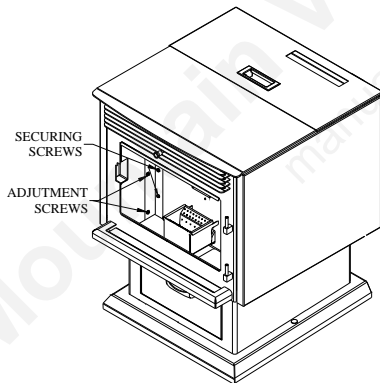
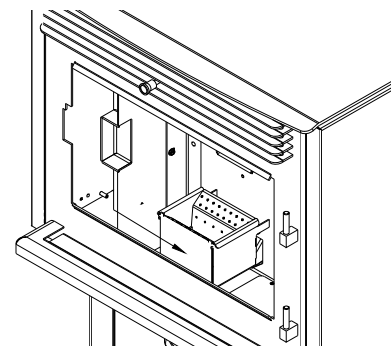
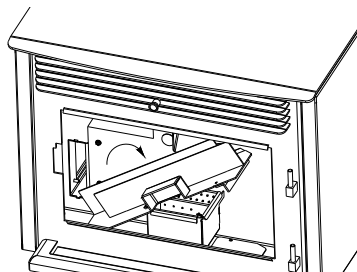
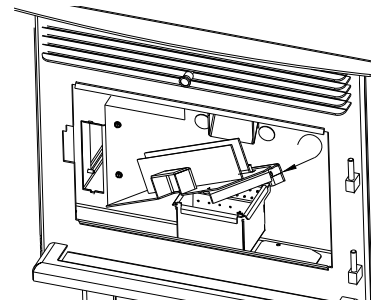

Figure 44
Figure 45
Figure 46
Figure 47
- Chamber walls:** Periodically, you must vacuum the ashes that may have accumulated on the main walls of the combustion chamber. **START BY REMOVING THE DECORATIVE MASONRY-LIKE PANELS, WHICH ARE SIMPLY HELD BY CLIPS.** The use of a vacuum is necessary. There is also a cleaning outlet located behind the left side panel of the combustion chamber. Remove this panel using a screw driver. Loosen the adjustment screws then remove the securing screws(Figure 44). Slide the wall toward right(Figure 45), tilt it (Figure 46) then remove it from the combustion chamber. Scrape off ashes. You will notice a small rectangular cleaning outlet. Inspect behind this outlet (see Figure 47) Insert the vacuum tip through the cleaning outlet and clean thoroughly. **REPEAT THIS OPERATION AT LEAST ONCE PER TON OF PELLETS BURNED UNTIL YOU ARE FAMILIAR WITH HOW ASHES ACCUMULATE WITH YOUR OPERATING PRACTICES.**